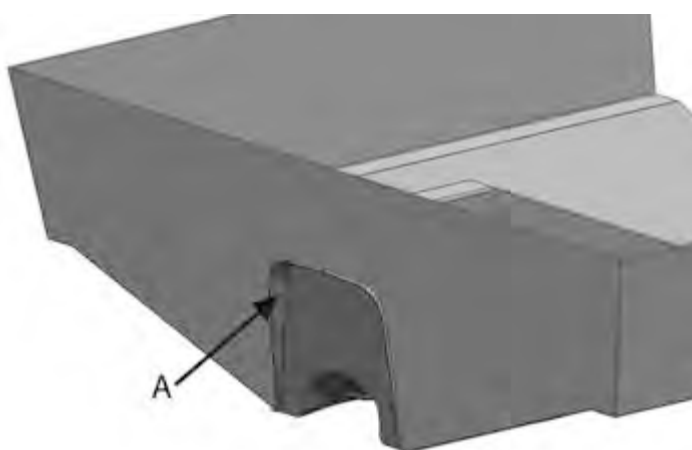

Figure 12. Excess collar
11. Cut off the excess collar on the installation insert outside the transom (figure 12).